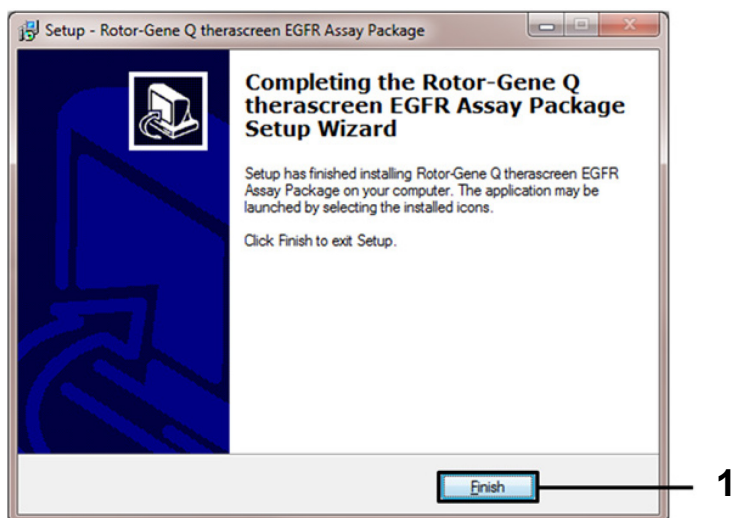

Figure 43. Completing the setup wizard (1 = "Finish" button).
6. The setup starts automatically. When installation is complete, a final "Setup Wizard" dialog box opens. Click "Finish" to exit (Figure 43).